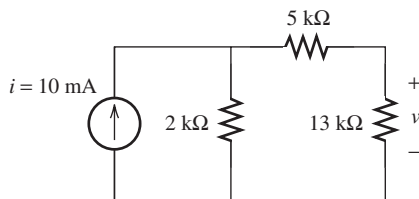

FIGURE P2.23 Circuit for Problem 2.23.
2.23 (A)* Find v in the circuit given in Figure P2.23.